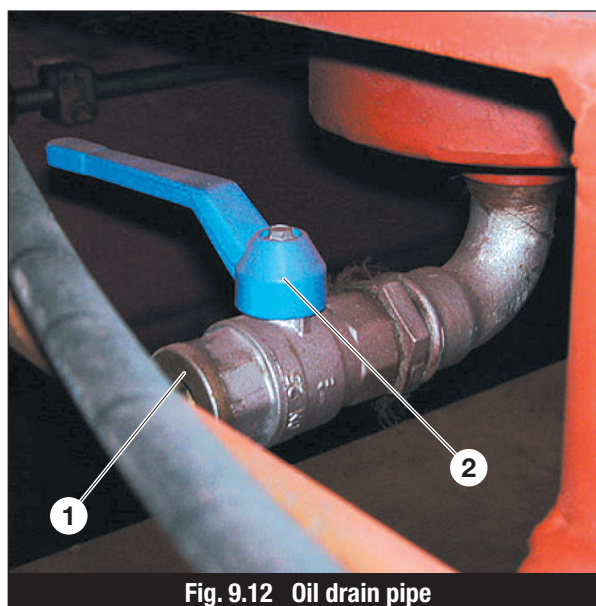

Fig. 9.12 Oil drain pipe
1. Remove the drain plug from the drain cock (Item 1, Fig. 9.12).
4. Open the ball valve (Item. 2, Fig. 9.12) and allow oil to drain into the container.
6. Close the ball valve (Item 2, Fig. 9.12) and watch the oil emerging from the drain hole.